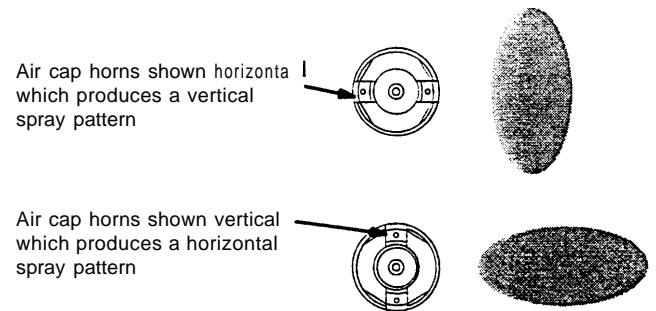

Fig. 4
3. Fan pattern adjusting valve (E). Normal adjustment is the valve turned out fully clockwise and then turned IN two full turns.
4. Fluid adjusting valve (F). This valve is used in systems that do not have a fluid regulator. For this system, use the fluid regulator to adjust fluid flow.
6. Loosen the air cap retaining ring (G), and rotate the horns of the air cap to obtain the desired spray pattern. Tighten the retaining ring snugly, but do not over-tighten. See Fig. 4 for how to obtain a vertical or horizontal spray pattern.